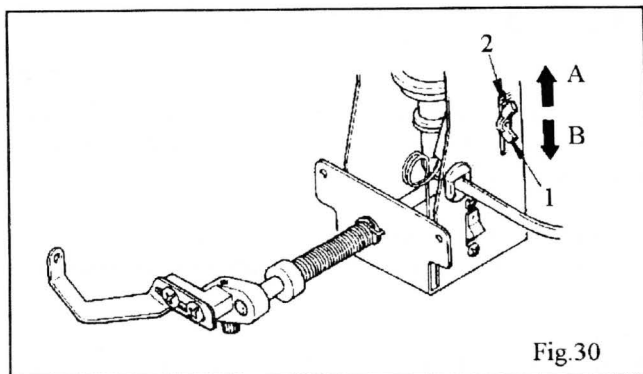

Fig.30
To adjust the slackness of the needle thread, loosen wing bolt (1) and slide it up or down, as required, using the indicator (2) and graduation as a yardstick as shown in Fig. 30.
**NOTE:** Excessive slackness of the needle thread may cause birds nest and thread breakage at start of sewing. Insufficient slackness may result in needle thread being pulled out of needle eye, skip stitching and needle breakage at start of sewing. When slack needle thread regulator function is not required, turn off switch (3) shown in Fig. 30.